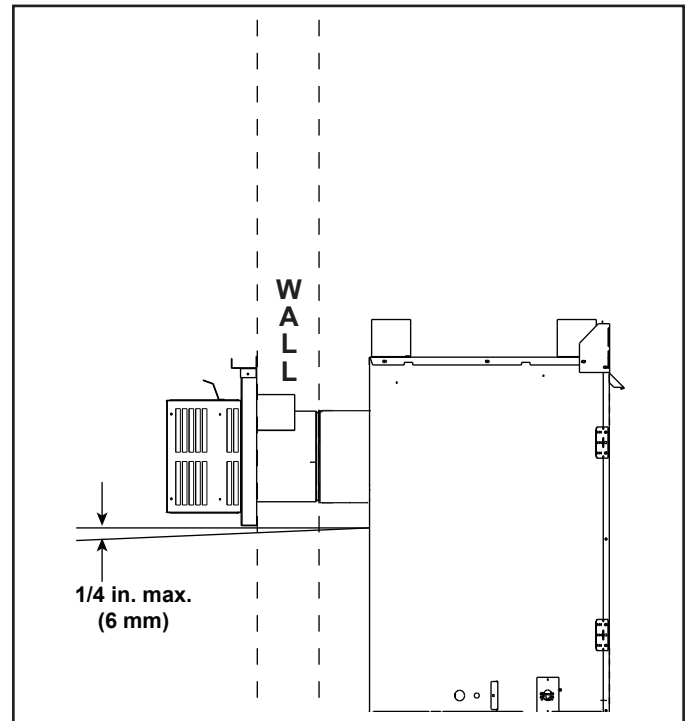

Figure 4.8 Vent Cap - Generic Appliance Shown
- Horizontal termination cap should have a 1/4 in. (6 mm) downward slant to allow any moisture in cap to be released. See Figure 4.8.